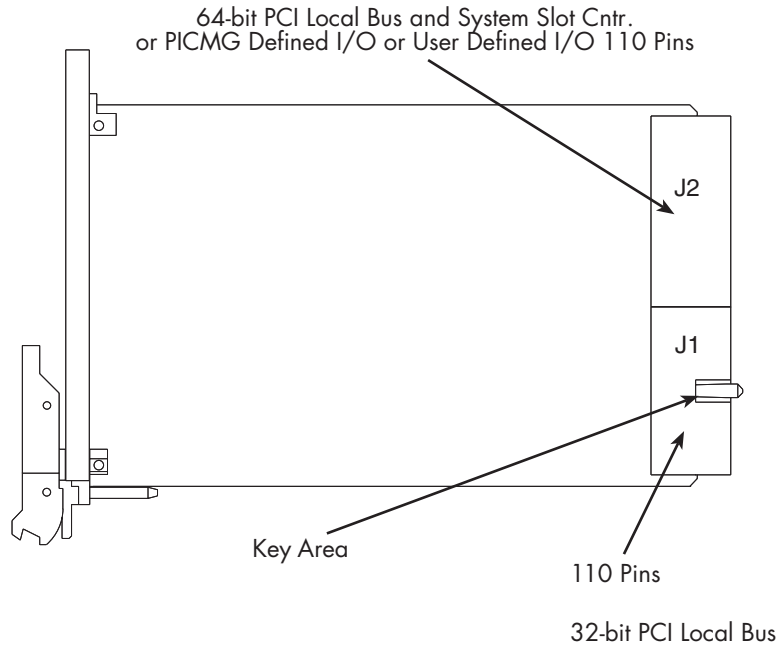

Figure 7. J1 and J2 connectors on the 3U card
- 3U cards—J1-J2 (see figure 7 on page 30)